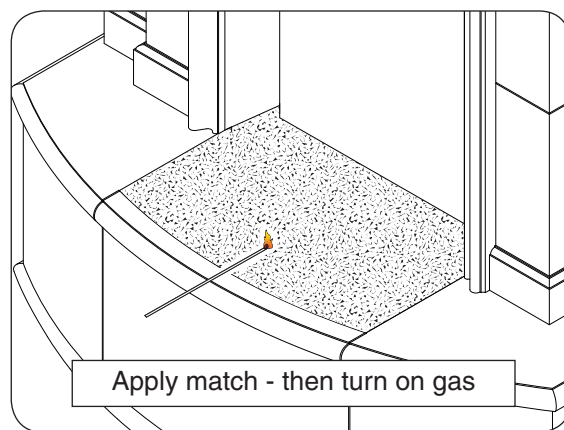

Fig. 33-1 Lighting burner
3. Lay a lighted long-stem match on the surface of the decorative media near the burner (**do not hold the match in your hand**) or use a lighted long-necked butane lighter (Fig. 33-1).